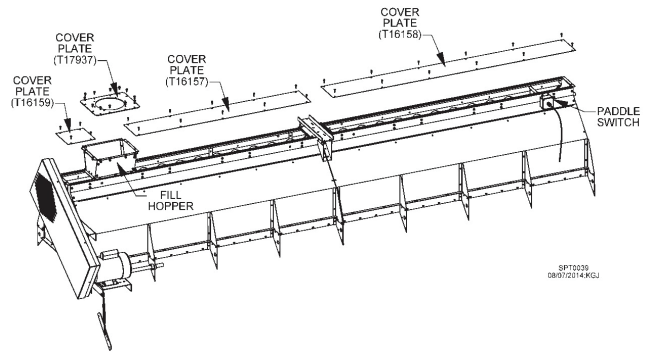

Fig. 2-17 - Fill hopper installation at front of wet bin (16' dryer shown)
5. Bolt top fill hopper to top of wet bin on filling end of dryer. Place cover plates on top and attach with 1/4 x 1" self-drill screws. See Fig. 2-17 for front-fill and Fig. 2-18 for rear-fill dryer.